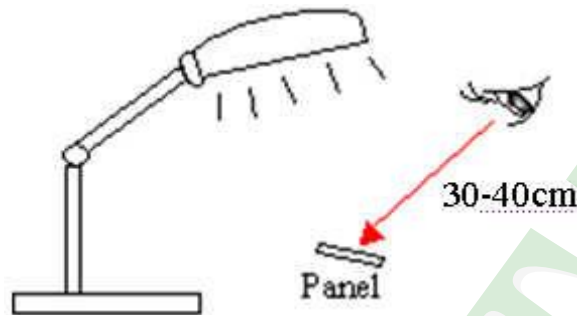

Fig. 1
- (1) Ambient temperature :  $25 \pm 5$  °C
- (2) Humidity : 25~75 % RH
- (3) Panel visual inspection on the operation condition for cosmetic shall be conducted at the distance 30~40cm or more between the LCD module and eyes of inspector.
- (4) The viewing angle :
(5) Display panel shall be conducted at the distance 30~40cm between the LCD module and eyes of inspector (Fig. 1)